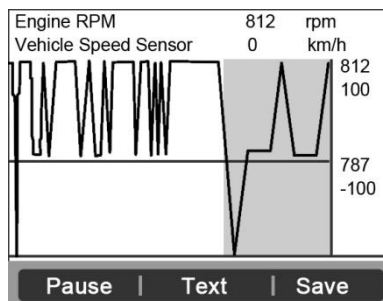

Figure 6.13
- If the “**Graphics**” on the bottom appears when a PID is highlighted, graphic information is available. Select **Graphics** to view the graph. (Figure 6.13) for PID name, current value, maximum and minimum values.